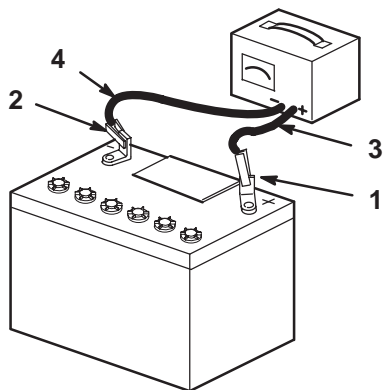

Figure 57
- When the battery is fully charged, unplug the charger from the electrical outlet, then disconnect the charger leads from the battery posts (Fig. 57).